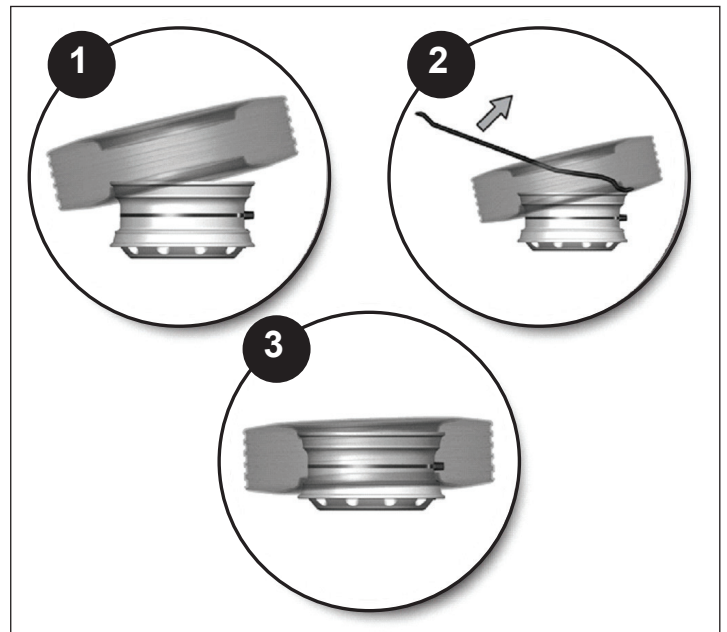

FIGURE 3 - USING A TIRE IRON
- See Figure 3. To avoid damaging the sensor, simply mount the tire so that the last part of the bead to slip over the flange will be at the sensor. Start at one end of the tire and work towards the opposite end with the tire oriented so that the beads are first pushed under the rim flange directly opposite the sensor (1) and then worked over the flange toward the sensor (2). Using this technique, the bead will slip over the rim flange at the sensor without contacting it (3). Repeat for the remaining bead.